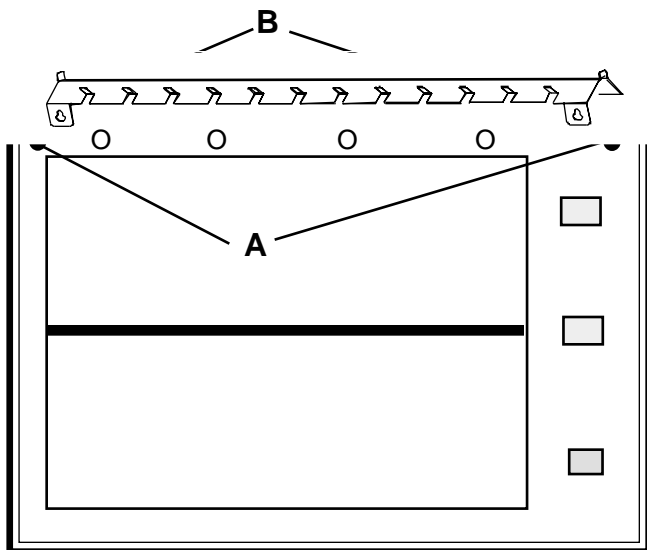

FIGURE 1
7. Loosen the two Phillips Head screws (A) on both sides of the bin. **NOTE: The screws only need to be loosened 2-3 turns DO NOT REMOVE.** (See Figure 1)
8. Place key hole slots (B) on the time card rack over the loosened screws and tighten. (See Figure 1)